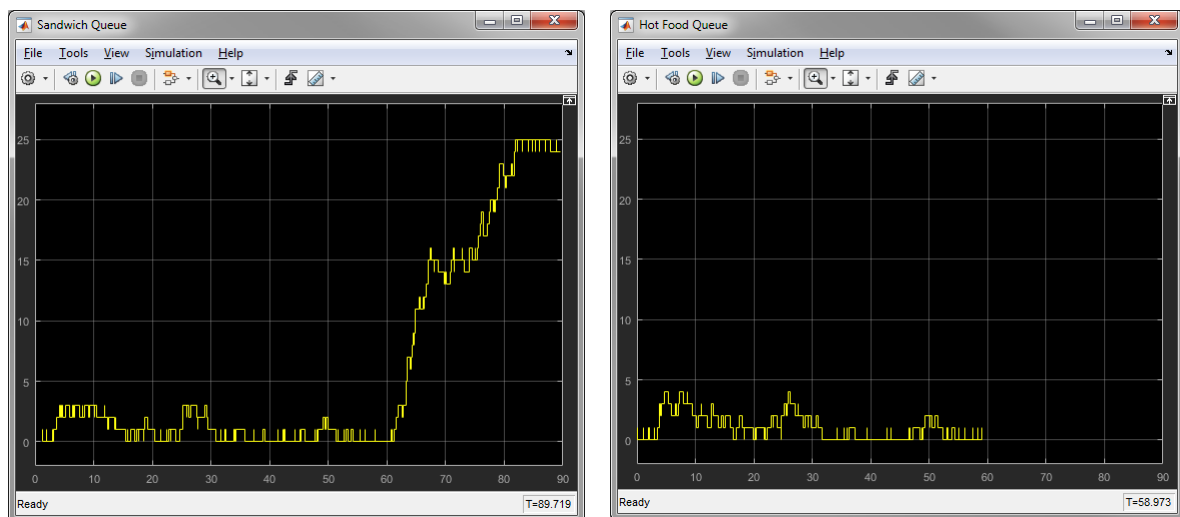

Figure 34: Exercise 8 queue lengths
2. Run the simulation and observe the queue lengths as shown in Figure 34.